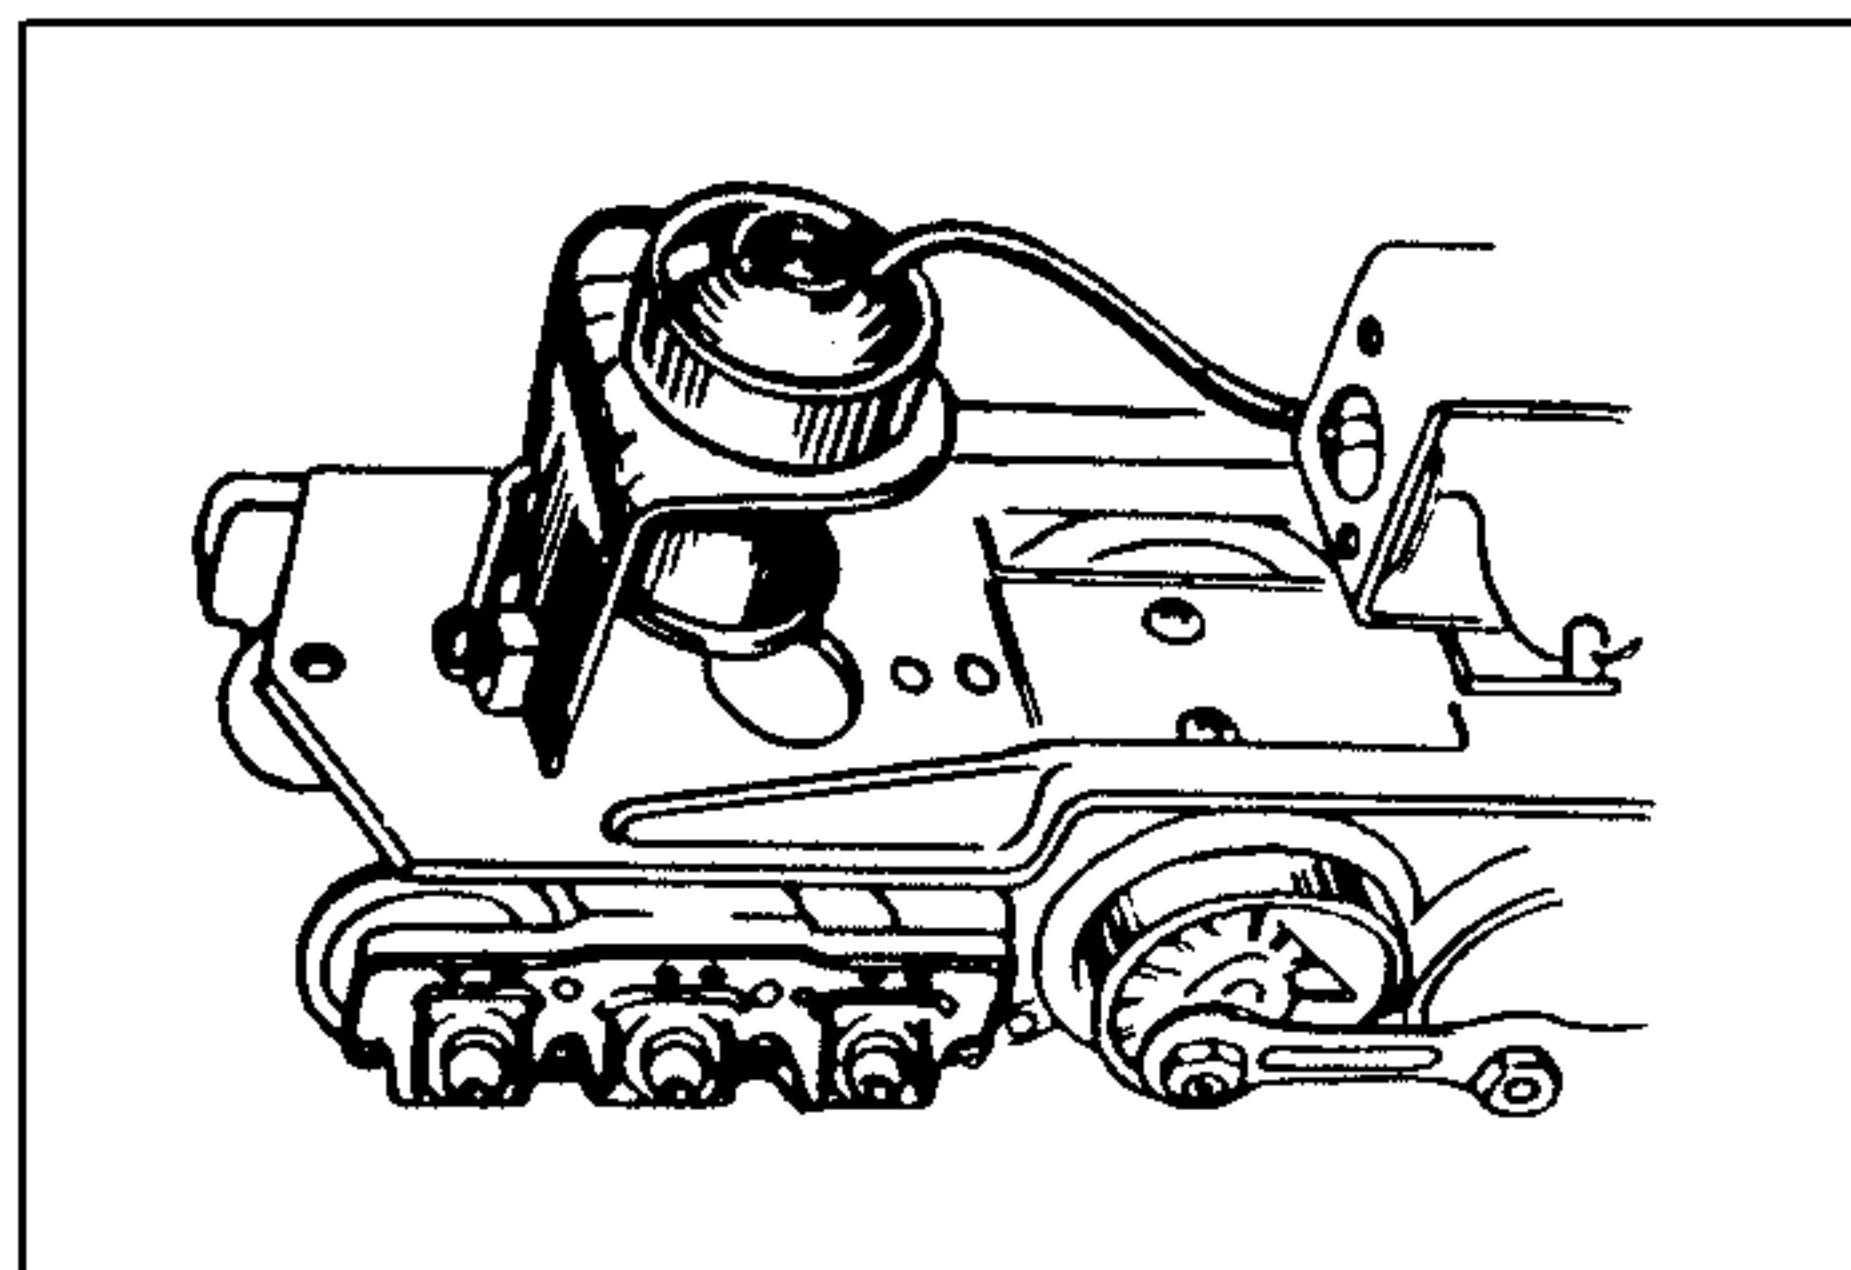

Figure 3 - Heater smoke generator in place.
5. Install the Smoke Unit 671-170, and the Smoke Piston, 671-167, using the #4-40 x 3/16" Binding Head Screw. (See Figure 3)